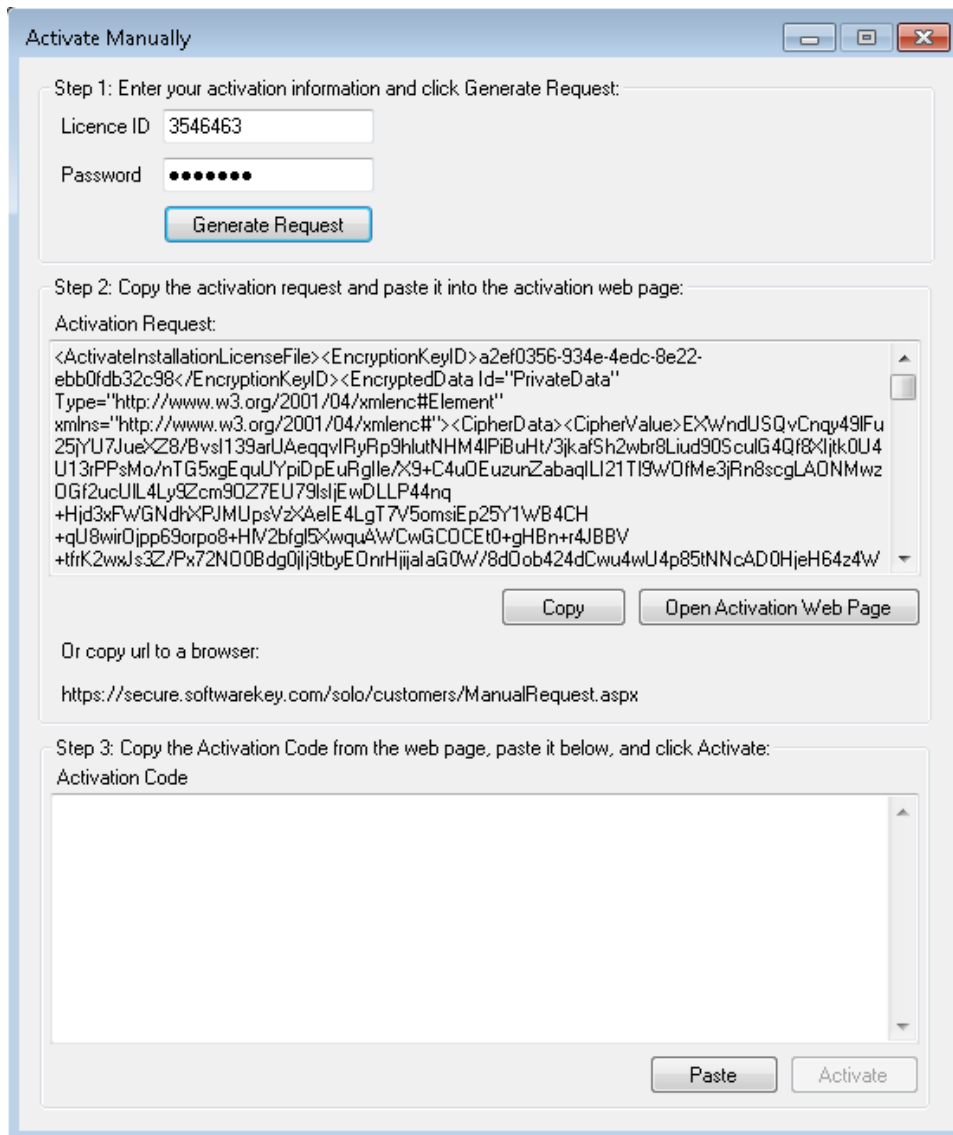

Figure 173
- The **Activation Request** text will be displayed. See Figure 173: